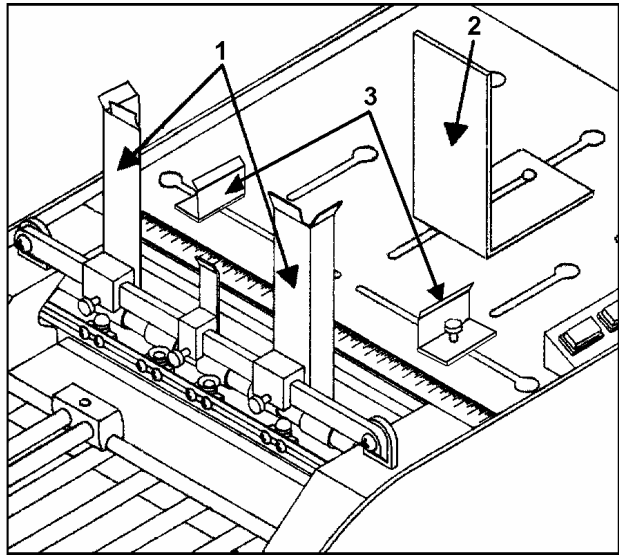

Figure 7
5. Attach the front envelope guides [#1, Fig. 7] approximately in the middle of the feeder as shown.
7. Attach the rear envelope guide [#2, Fig. 7] using the slot in the feeder floor nearest the rear end of the envelope, then adjust the anti skewing guides to the sides of the envelope [#3, Fig. 7].